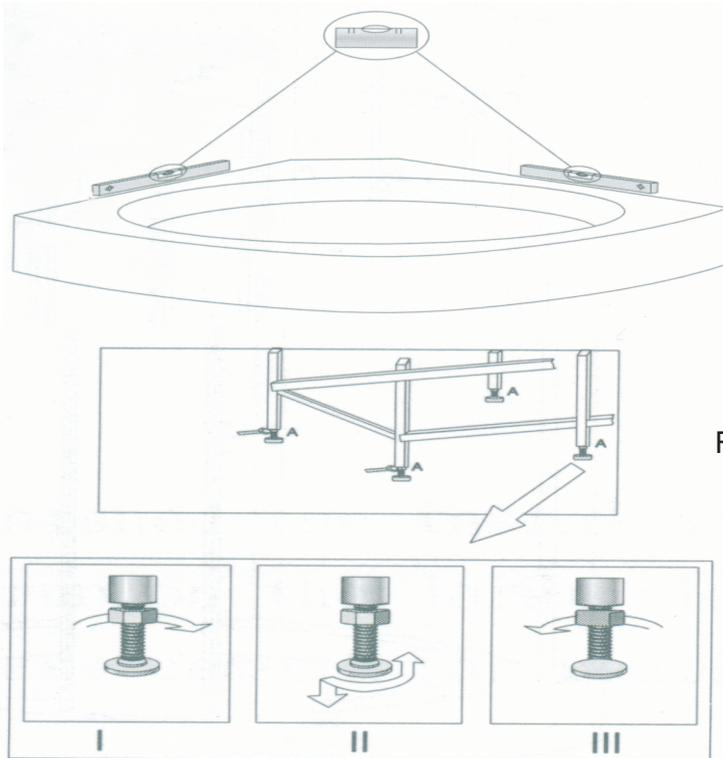

Figure 4
3. Adjusting the bottom kickstand of shower tray to lower the outlet a little bit (Figure 4)